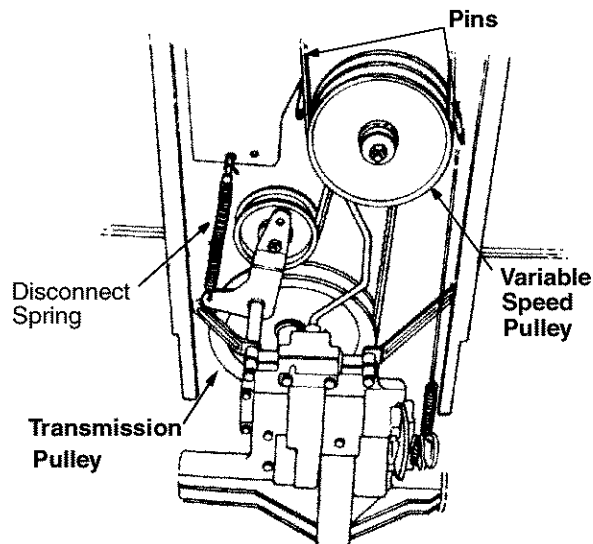

Figure 32
- Remove the two pins which act as belt keepers by the variable speed pulley. for the location of the variable speed pulley, see Figure 32.
- Disconnect the spring which secures the idler pulley to the frame. See Figure 32.